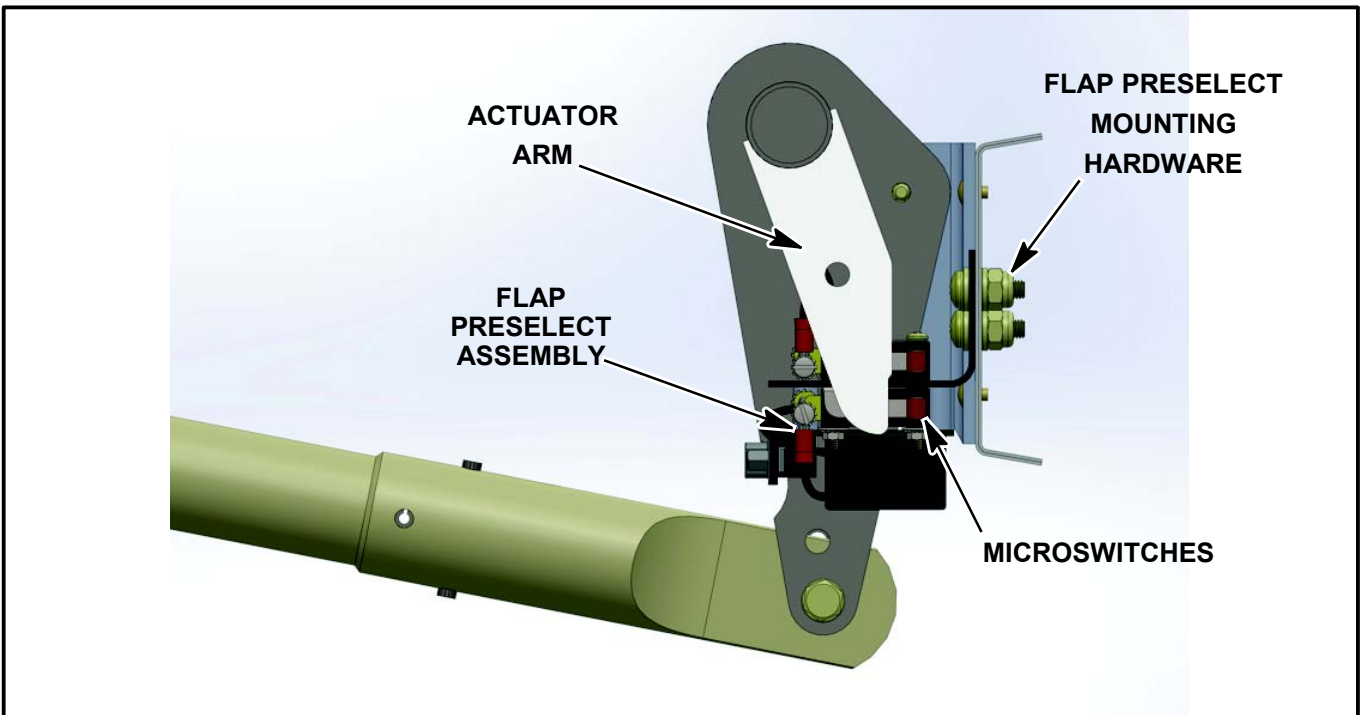

Figure SIM20-142-19 - MICROSWITCH POSITION
- 1.20. The installed flap preselect board microswitch position should look like Figure SIM20-142-19.